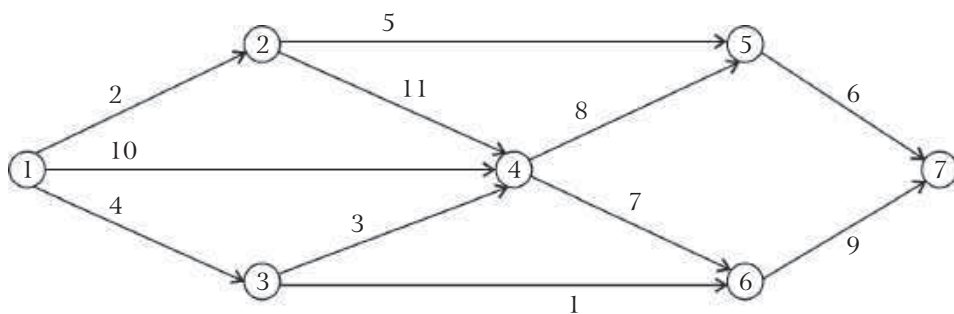

Fig. 8.55
9. In the network given in fig. 8.55, the length of the shortest route from node 1 to 7 is:
10. In the network given in fig. 8.55, the node 4 is connected to node 7 by an are of length 5, then the shortest route from node 1 to node 7 is: